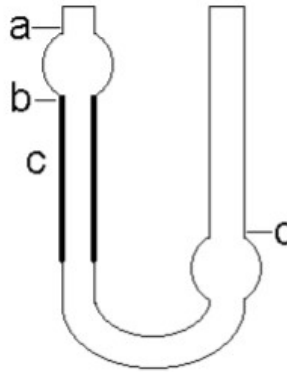

Figure 1. Ostwald capillary viscometer.
Ostwald capillary viscometer shown at the figure 1. It has control marks (a, b, d are the marks limiting the liquid level) and capillary (C).